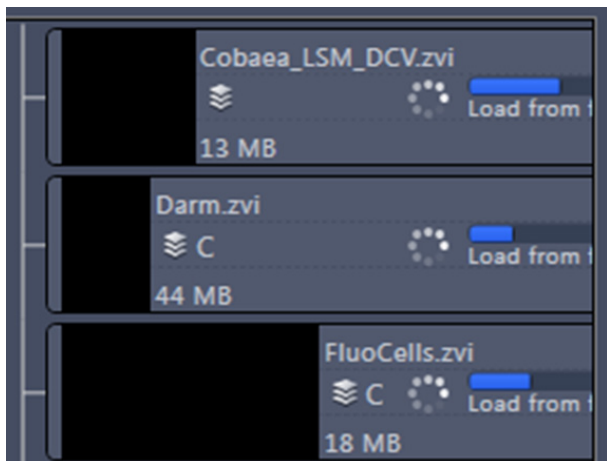

**Fig. 765** 2 Ch. Z-Stack image
- Example of a 2 Ch. Z-Stack displayed with a small thumbnail in the **Images and Documents** section (Fig. 765).